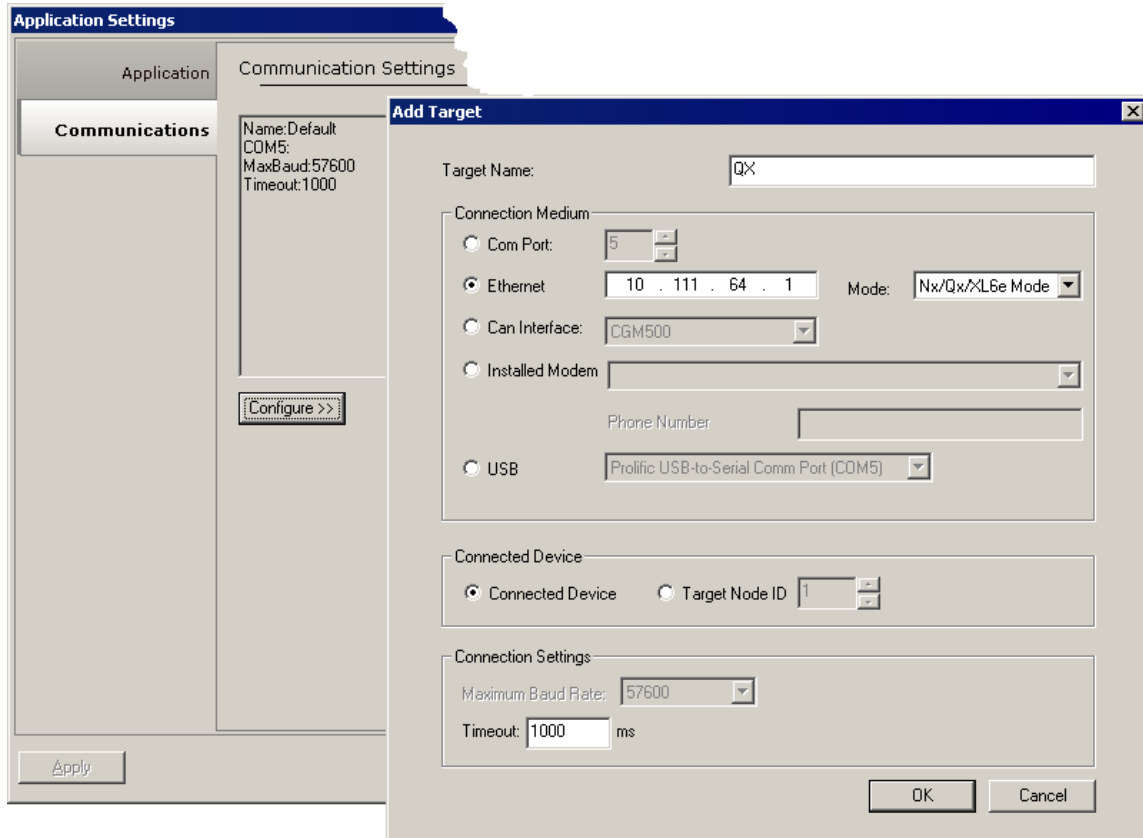

Figure 4.1– Program Options Dialog – Communications Port Tab and Ethernet Selected
If the new Ethernet configuration specifies *Static IP Address* (Section 3.2.1 [page 21]), make sure the **IP Address** parameter (Figure 3.5 [page 18]) matches Cscope's **Target IP Address** (Figure 4.1).
If the new Ethernet configuration specifies *Static IP Address with CAN ID* (Section 3.2.2 [page 21]), make sure the IP Address, which will be built from the combination of the **IP Address** parameter (Figure 3.5 [page 18]) and the OCS/RCS CAN Network ID, matches Cscope's **Target IP Address** (Figure 4.1).
If the new Ethernet configuration specifies *IP Address from OCS Register* (Section 3.2.3 [page 22]), make sure the OCS register indicated by the **IP Addr Register** parameter (Figure 3.5 [page 18]) contains an IP Address, and that it matches Cscope's **Target IP Address** (Figure 4.1). If necessary, use Cscope's Data Watch facility to set the OCS register to the correct IP Address before downloading.
2. Referring to Figure 4.1, change Cscope's **Target IP Address** to match the Ethernet Module's new IP Address.
4. If this does not succeed, try changing Cscape's **Target IP Address** (Figure 4.1) to match the static **IP Address** parameter (even if it is grayed out).